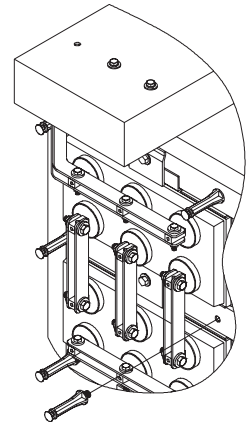

FIGURE 20a
1. Install ALL safety shield standoffs into modules as shown in Figure 20a.